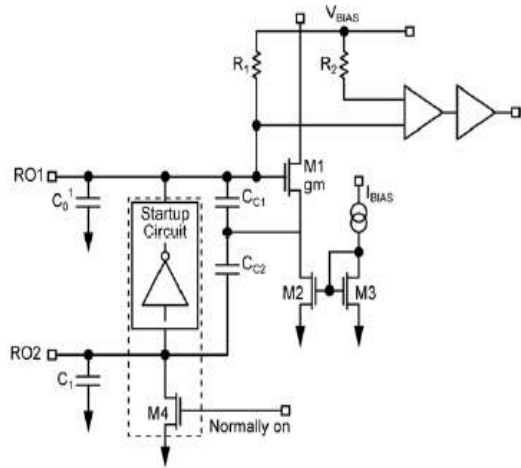

Figure 2: Reference Oscillator Circuit
2) uses a basic Colpitts crystal oscillator configuration with MOS transconductor to provide negative resistance. All capacitors shown in Figure 2 are integrated inside CY803/802. R01 and R02 are external pins of CY803/802. User only needs to connect reference oscillation crystal. Reference oscillator crystal frequency can be calculated: